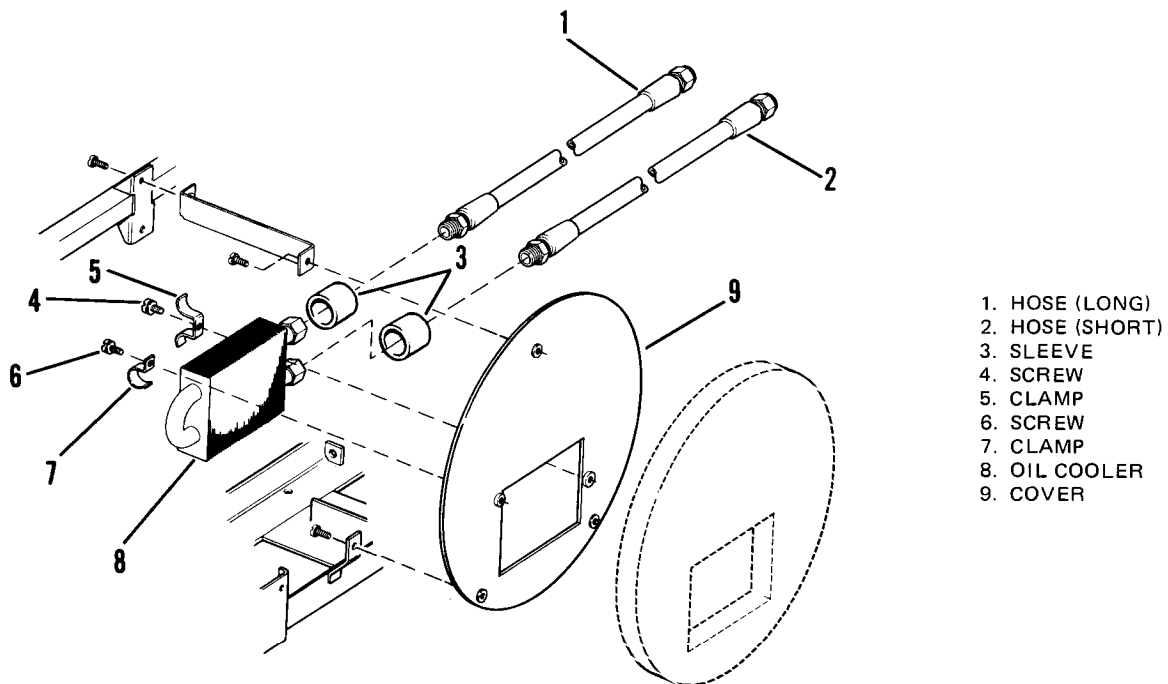

Figure 7-35. Engine Oil Cooler.
- (3) Disconnect hoses (1 and 2, Figure 7-35) from oil filter adapter elbows.
- (4) Remove screw (4) and clamp (5).
- (5) Remove screw (6), clamp (7), and remove oil cooler (8) from cover (9).
- (6) Remove hoses (1 and 2) and sleeves (3) from oil cooler (8), taking care not to damage the oil cooler.
- (1) Carefully install hoses (1 and 2, Figure 7-35) and sleeves (3) onto oil cooler (8).
- (2) Secure oil cooler (8) to cover (9) with clamp (7) and screw (6).
- (3) Install clamp (5) and screw (4).
- (4) Connect hoses (1 and 2) to oil filter adapter elbows.
- (5) Install battery, refer to TM 05926B/06509B-12/TM 5-6115-615-12/NAVFAC P-8-646-12/TO 35C2-3-386-31 manual, paragraph 4-22.
- (6) Fill engine with the proper amount and type of engine oil. Refer to TM 05926B/06509B-12/TM 5-6115-615-12/NAVFAC P-8-646-12/TO 35C2-3-386-31 manual, paragraph 3-30.